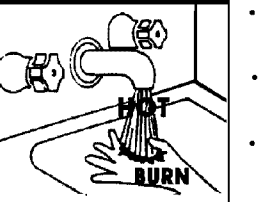

**FIGURE 30.**
When checking the temperature-pressure relief valve operation, make sure that (1) no one is in front of or around the outlet of the temperature-pressure relief valve discharge line, and (2) that the water discharge will not cause any property damage, as the water may be extremely hot. See Figure 30.